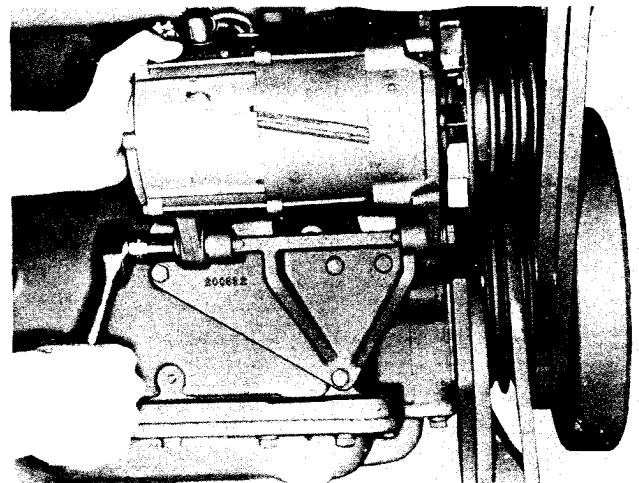

Fig. 0-5, (N10075). Removing generator
4. Remove capscrews and flatwashers or spacers securing generator to mounting blocks or bracket (Fig. 0-5), and lift away generator.